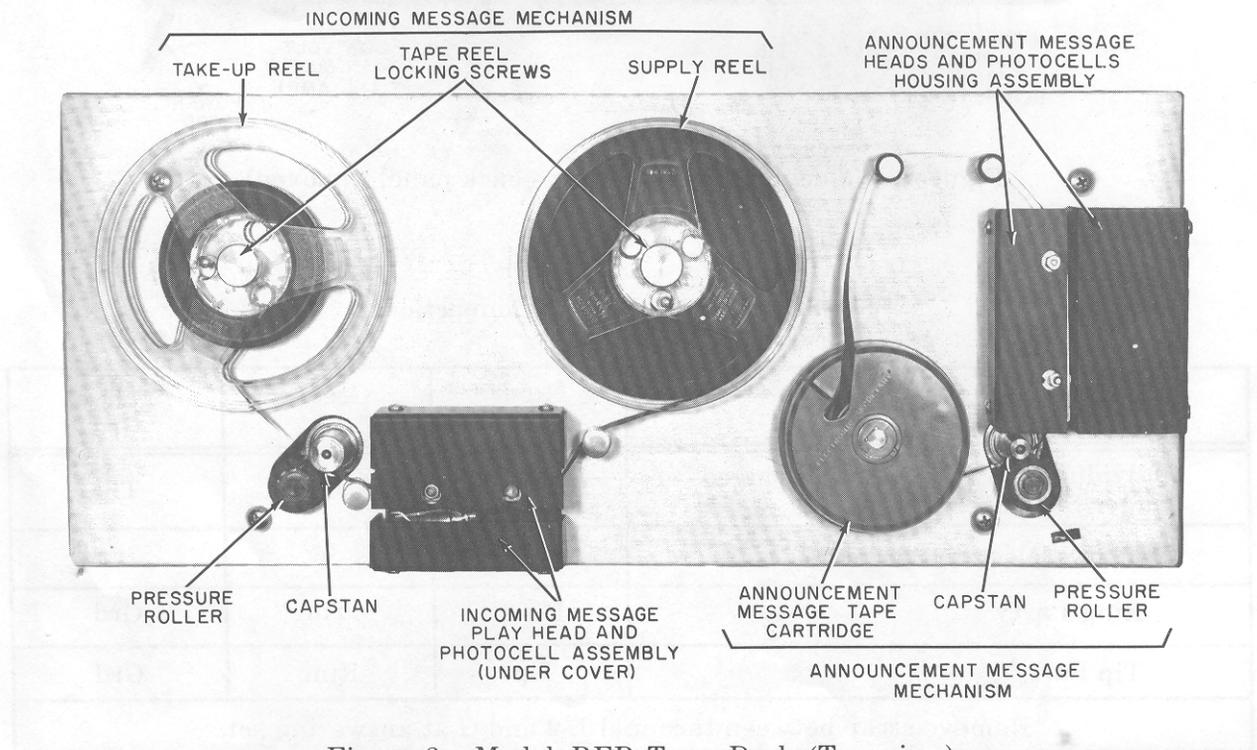

Figure 3. Model RFP Tape Deck (Top view).
2.08 Place announcement message cartridge on "D" shaped spindle. Pull tape out of cartridge and thread around guide pillars and into slot (see Figure 3). Pull back pressure roller assembly and thread tape between rubber pressure roller and capstan. Pull tape gently to take up slack. Release pressure roller assembly. Plug in power cord and rotate OFF-VOLUME switch to "ON." The unit will advance the tape, stopping when the lower window reaches the photocell.
2.10 Remove the tape reel locking screws (see Figure 3). Place the empty reel on the left hand (take-up) reel platform. Be sure side one of reel is facing up. Place the full reel of tape on the right hand (supply) reel platform.
2.11 Thread the free end of the tape behind the first guide pillar (see Figure 3), then around the front of second guide pillar, erase head, photocell housing, record head, behind the last guide pillar, and between the rubber pressure roller and capstan. Insert the free
3.01 The Model RFP performs the following six basic functions: (1) Dictate Announcement; (2) Check Announcement; (3) Automatic Operation; (4) Automatic Callback Operation; (5) Rewind and Playback; and (6) Rewind Erase. In addition, the unit is capable of remaining in a standby condition, during which the unit is ON but waiting to perform a function. The following paragraphs in conjunction with Figures 3 and 4, explain the basic functions. The information contained in this part should